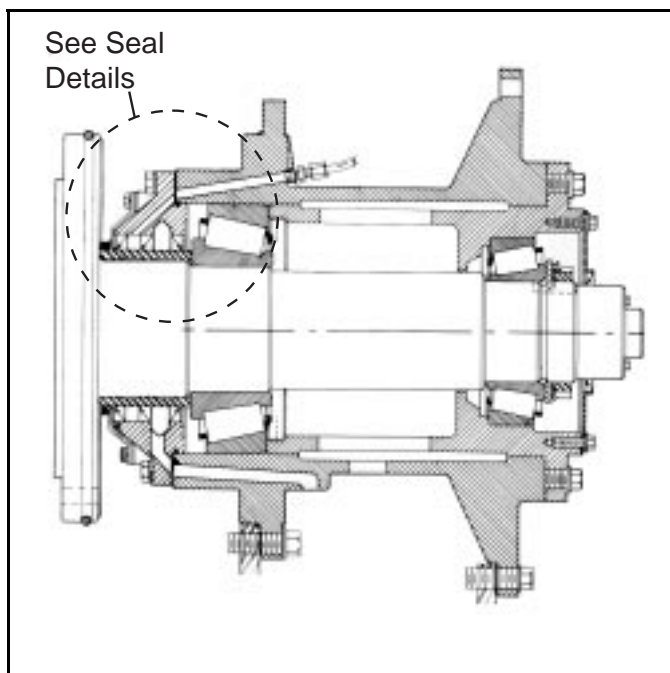
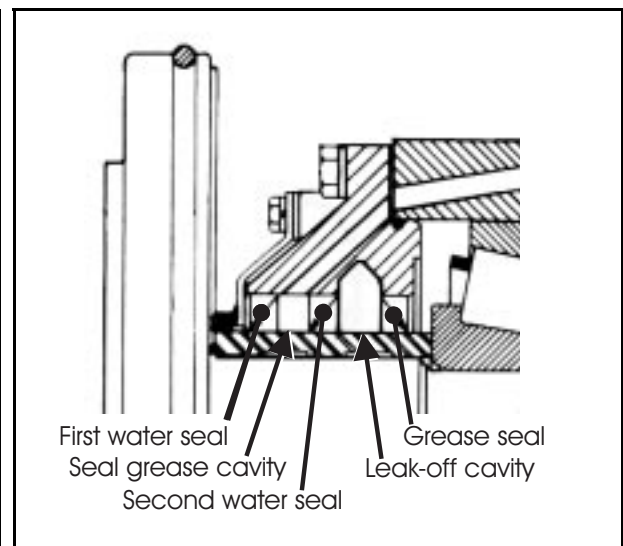
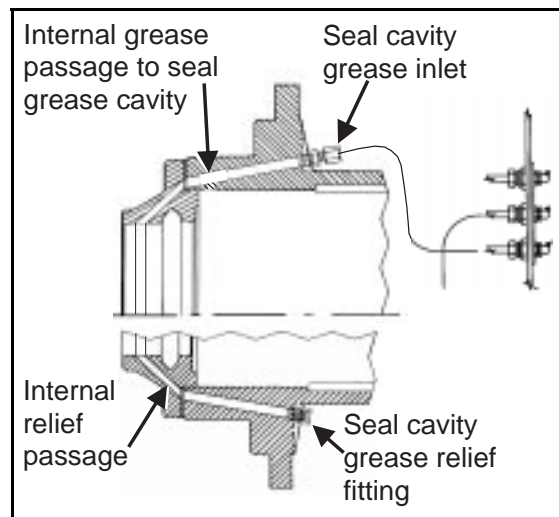

FIGURE 1 (MSSM0272AE) — Typical Bearing Housing for 48" Washer-Extractor
FIGURE 2 (MSSM0272AE) — Seal Details
FIGURE 4 (MSSM0272AE) — Internal Seal Cavity Grease Passage and Relief
Background—The grease filled bearing housings for 48 inch open pocket machines are supplied with two water seals and a grease seal as shown in FIGURES 1 and 2. Bath liquor is prevented from entering the bearings by two water seals separated by grease filled cavity (FIGURE 2). Any water leaking past the water seals is drained by the leak-off cavity. The grease seal retains the grease in the housing. The seal grease cavity and the leak-off cavity can become clogged with lint and debris, resulting in seal and bearing failure. Every six months, flush out these cavities with mineral spirits, as described within. Normally, flushing is done less often than greasing. However, whenever flushing is due, it should be done just prior to greasing, during the same maintenance session.
3. Remove the seal cavity grease relief fitting (if so equipped) to prevent the mineral spirits and contaminated grease from being pushed back into the shell under the first water seal. FIGURE 4 shows the internal passage from the seal cavity grease inlet to the seal grease cavity (FIGURE 2) and the internal relief passage from the seal grease cavity to the grease relief fitting (if so equipped) on the housing.